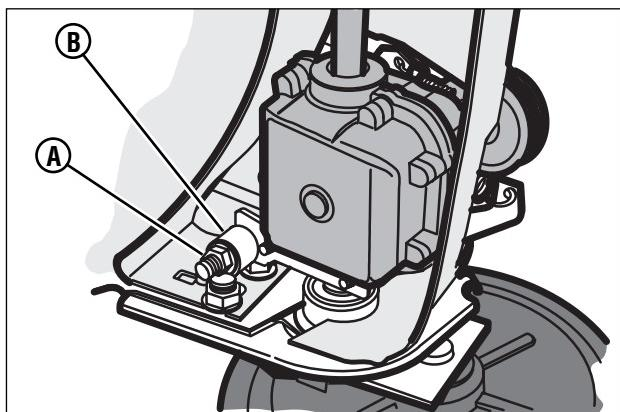

Figure 22: Setting the belt tension
- a. Tighten the adjuster nut (**A**, **Figure 22**) until the nut touches the spacer (**B**). Try to turn the spacer. When the adjuster nut touches the spacer, the spacer will not turn.